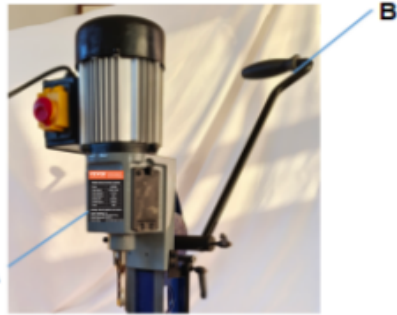

Fig. 3
2. Raise mortising machine head (A) ,See Figure 3, to the up position by turning handle (B) clockwise.